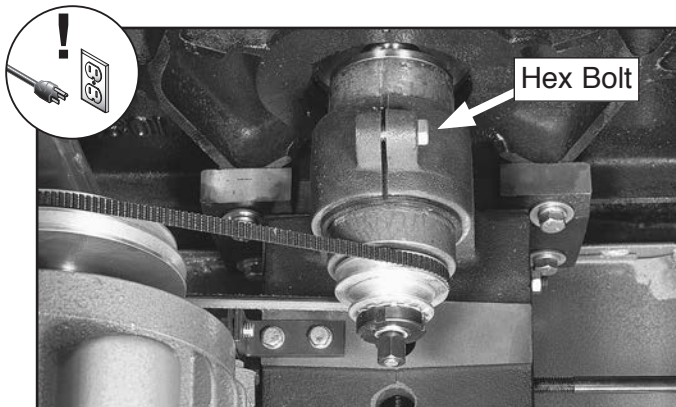

Figure 75. Location of spindle cartridge bracket hex bolt.
2. Reach into the rear of the cabinet, then loosen the hex bolt on the spindle cartridge bracket, as shown in **Figure 75**.